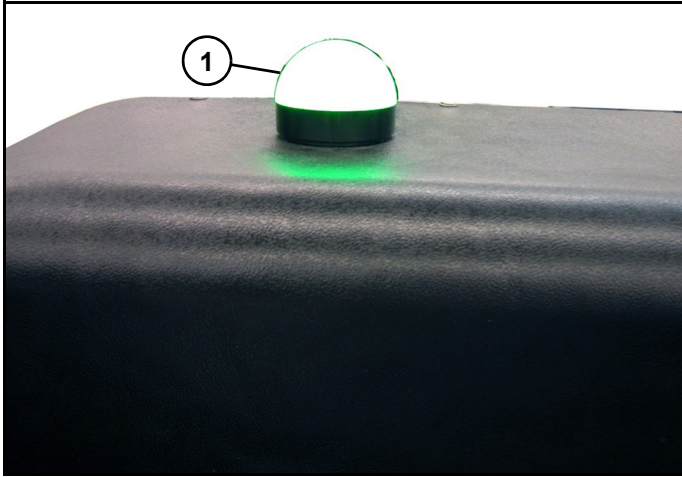

Figure 3
Status light (1) (*Figure 3*) reflects different states of instrument.